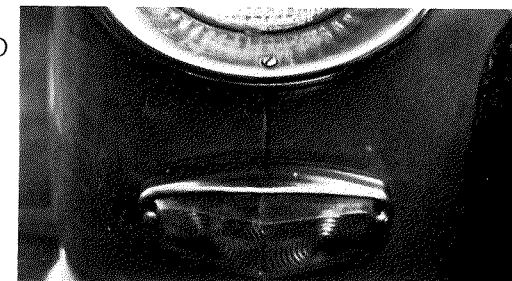

Fig. 5 - Large Side Light
**Sidelights:** Generally the 'larger' units (205526) with separate amber indicators (Fig. 5) were used on 948's. The small sidelights (flasher and sidelamp combined - 206977) are found on later 'S' saloons; early models had the larger unit.